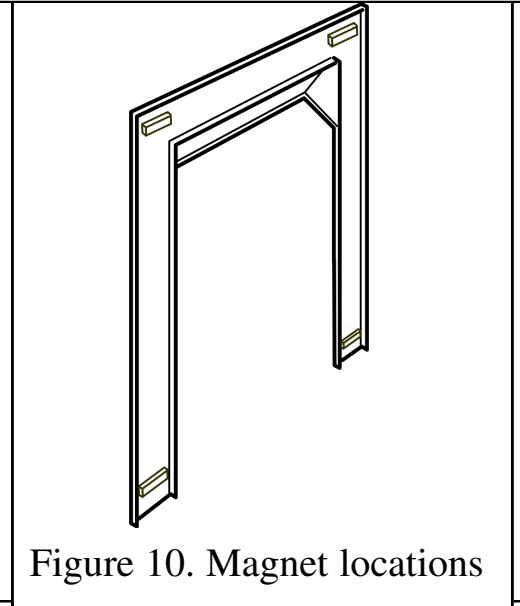

Figure 10. Magnet locations
1. Removing the fascia may have moved the magnets used to fix the fascia to the heater. The magnets should be located as in figure 10.